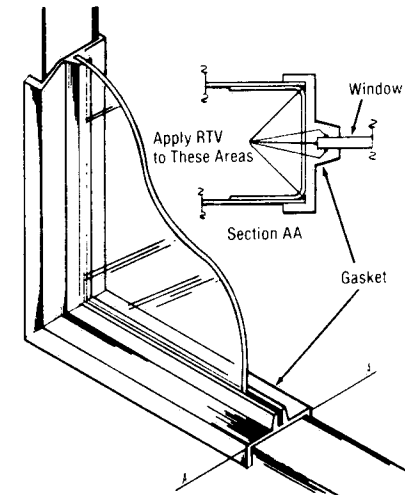

Figure 8-5. WINDOW AND WINDOW GASKET.
2. When replacing gasket or window, apply GE-RTV 108 adhesive sealant to the areas indicated in Figure 8-5.